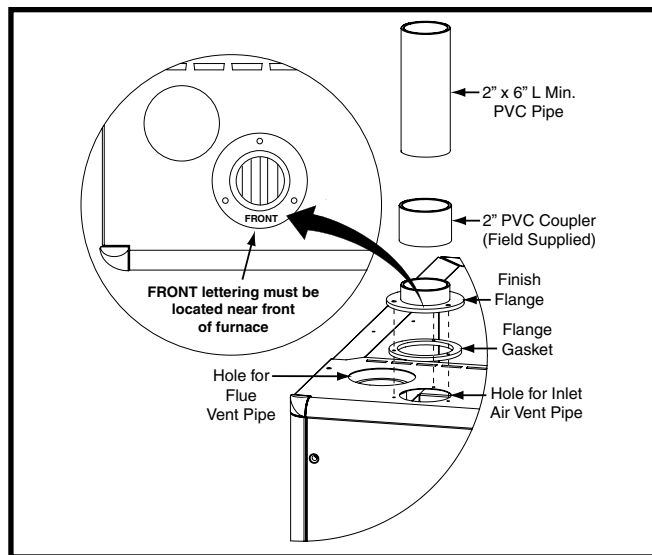

Figure 13. Finish Flange
The finish flange must be installed to vent the combustion air pipe through the top of the furnace. **NOTE:** For proper installation it is important that the pipe and screw holes in the finish flanges, gasket, and cabinet are aligned. See Figure 13.
NOTE: Make sure the flange is properly oriented so that the FRONT lettering is located near the front of the furnace as shown in Figure 13.
4. Attach a 2" PVC coupler (field supplied) to the finish flange along with a 6" minimum length of 2" PVC pipe. See Figure 13.